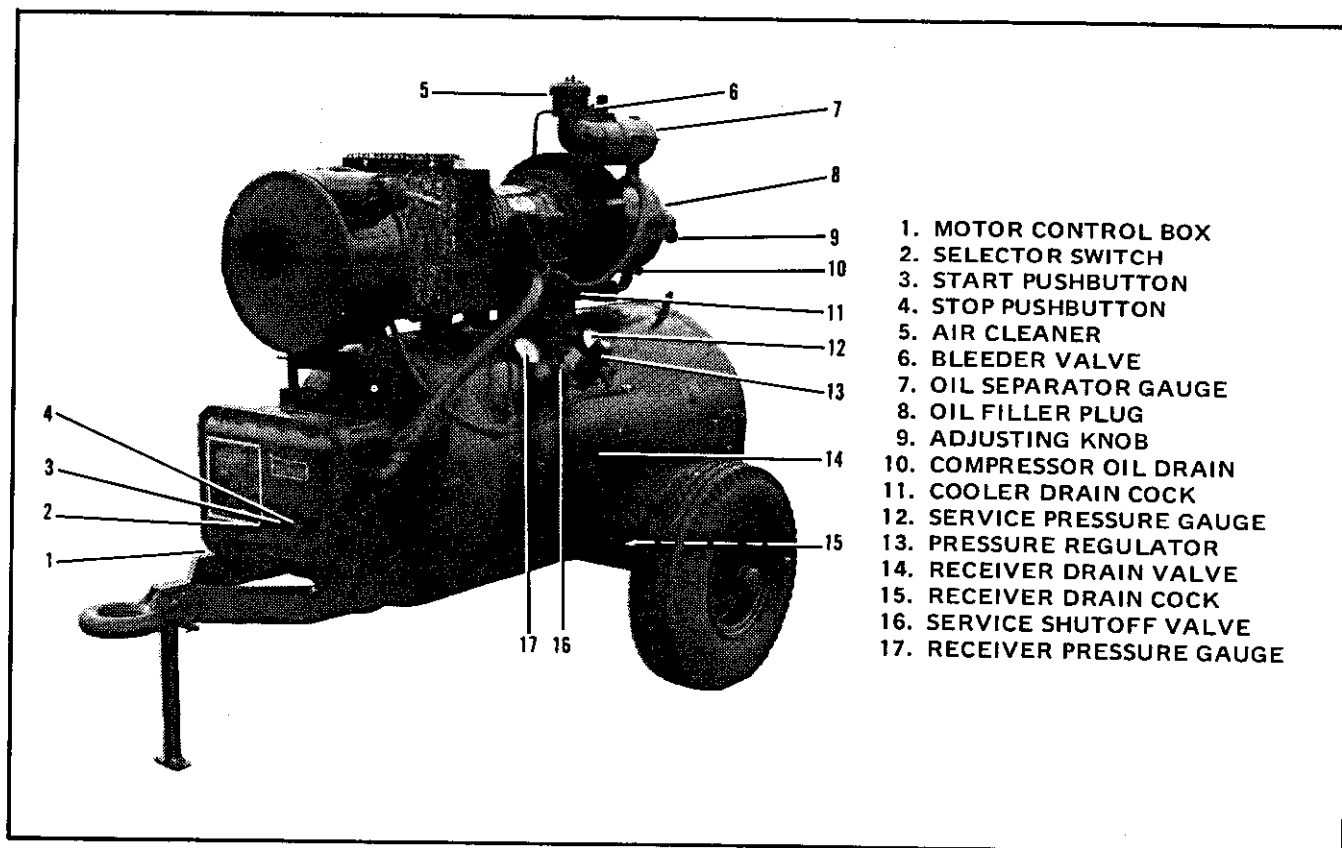
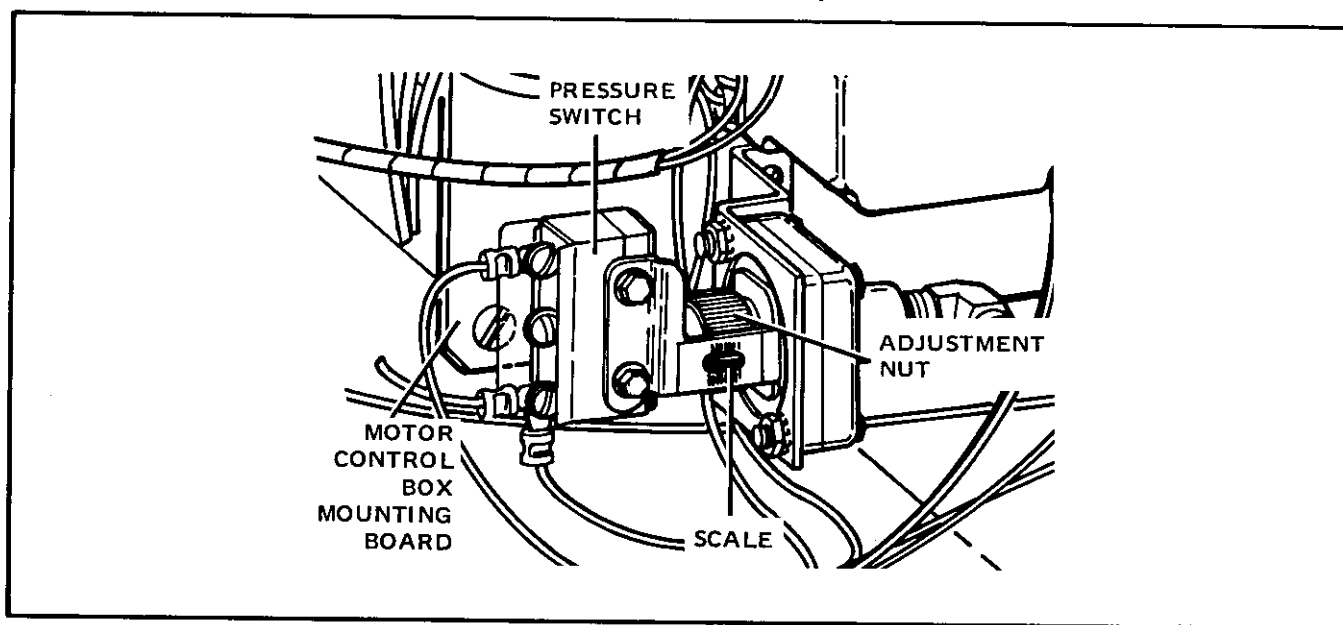

Figure 7-1. Operational Testing
Figure 7-2. Pressure Switch Adjustment
- a. Remove cover from control box (1, figure 7-1) and check to ensure that unit is wired for 230/460-volt input, as applicable for power source, and that correct heater coils are installed. (Refer to Figure 3-12, Wiring Diagram.) Then, install control box cover.
- b. Make certain that the compressor oil cooler drain cock (11, figure 7-1), receiver drain valve (14), receiver drain cock (15), air pressure regulator (13) and service shutoff valve (16) are all closed.
- c. Check level of oil in air cleaner (5) and in the compressor (8). Refer to Table 6-1, Lubrication Chart.
- d. Make certain that the control selector switch (2, figure 7-1) is in the OFF position. Connect the main power cable to the power source.
- a. Starting. Turn main power switch on. Place selector switch (2, figure 7-1) to AUTO position.
- b. Press the START pushbutton (3).
- c. Allow unit to run until a minimum of 100 psi is indicated on receiver pressure gauge (17).
- d. Check all piping and seals for oil leaks. Check the action of oil through bleeder valve window (6). A distinct percolating action should be seen to indicate normal oil separation.
- e. Place selector switch (2) in OFF position. Open the receiver drain valve (14) and bleed off all air pressure from the unit.
7-4. PRESSURE SWITCH ADJUSTMENT (Figure 7-2). Remove the control box cover to gain access to the pressure switch and adjust as follows:
- a. Observe receiver pressure on gauge (17, figure 7-1). If receiver pressure is below 200 psi when pressure switch opens and shuts off motor, turn adjustment nut (figure 7-2) clockwise to raise actuating pressure to approximately 210 psi.
7-5. CONSTANT SPEED UNLOADER ADJUSTMENT. The constant speed unloader (9, figure 7-1) should be set to unload the compressor at 210 psi and to maintain the compressed air output within a range of 40 psi. Adjust the constant speed unloader as follows:
- a. Observe the pressure at which the compressor unloads on air receiver pressure gauge (17, figure 7-1). If unloading occurs below 210 psi, turn adjusting knob (9) clockwise to increase pressure.
- b. If unloading occurs at pressure above 210 psi, turn the adjusting knob (9) counterclockwise to decrease pressure.
- a. Place the selector switch (2, figure 7-1) in OFF position.
- b. Slowly open receiver drain valve (14) and bleed off all air pressure from system.